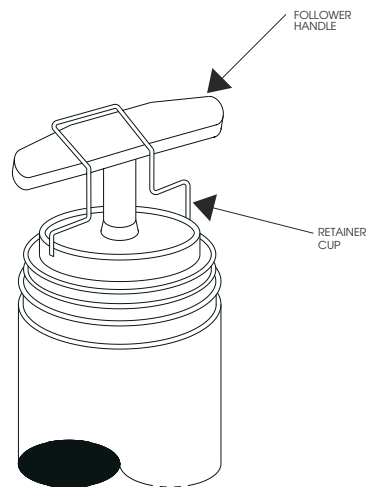

Figure 7-3. Follower Handle Retaining Clip
1. Disengage the retaining clip from the follower handle. Refer to Figure 7-3.